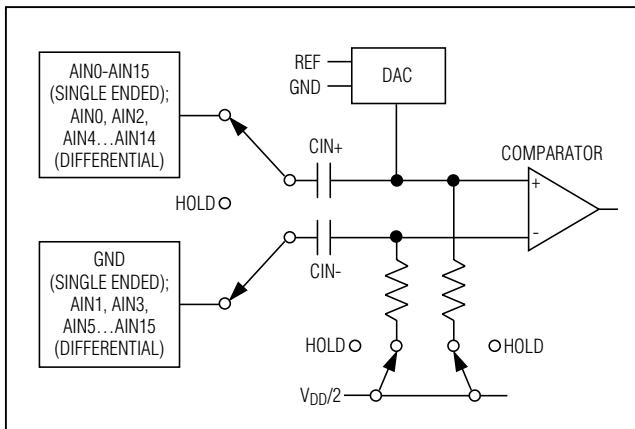

Figure 3. Equivalent Input Circuit
**Note 6:** See Figure 3 (Input Equivalent Circuit) and the *Sampling Error vs. Source Impedance* curve in the *Typical Operating Characteristics* section.
The MAX1227/MAX1229/MAX1231 use a fully differential ADC for all conversions. The analog inputs can be configured for either differential or single-ended conversions by writing to the setup register (see Table 3). Single-ended conversions are internally referenced to GND (see Figure 3).
The equivalent circuit of Figure 3 shows the MAX1227/MAX1229/MAX1231's input architecture. In track mode, a positive input capacitor is connected to AIN0–AIN15 in single-ended mode (and AIN0, AIN2, AIN4..AIN14 in differential mode). A negative input capacitor is connected to GND in single-ended mode (or AIN1, AIN3, AIN5..AIN15 in differential mode). For external T/H timing, use clock mode 01. After the T/H enters hold mode, the difference between the sampled positive and negative input voltages is converted. The time required for the T/H to acquire an input signal is determined by how quickly its input capacitance is charged. If the input signal's source impedance is high, the required acquisition time lengthens. The acquisition